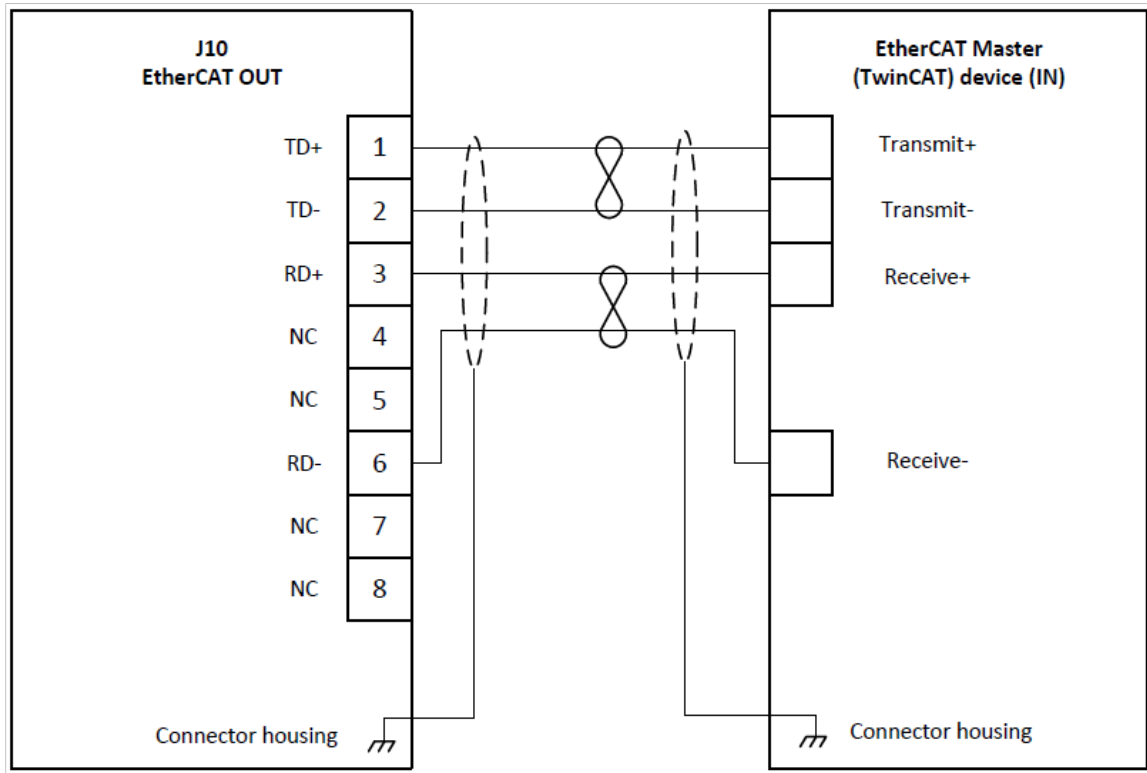

Figure 4-12. EtherCAT OUT Connection to External EtherCAT Master
2. When the unit is the last network node and a ring topology is used, connect J10 to the EtherCAT Master secondary port. See Figure 4-12.
Figure 4-12 illustrates the connection to an external master which is the last node in a ring topology.